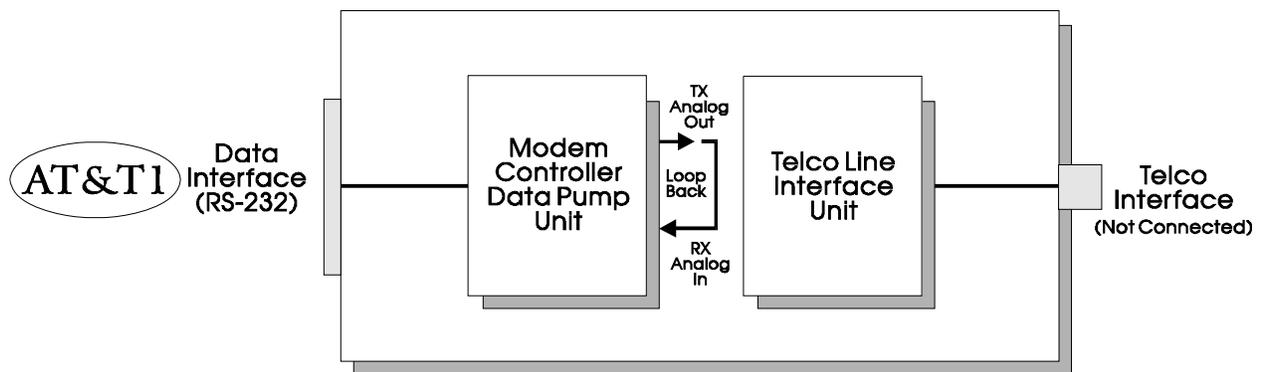

Figure 4-2. Initiate Local Analog Loopback Diagram
- Local Analog Loopback (see *Figure 4-2*)